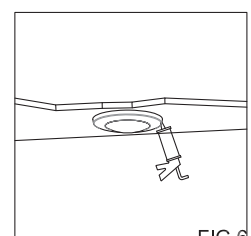

FIG.6
8. Complete the installation by pushing the fixtures into the ceiling. Caulk the space between the wall and the Shell. (FIG.6)